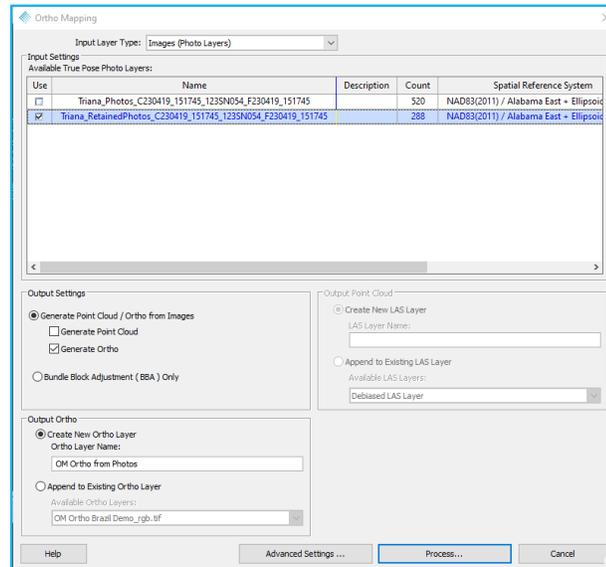

Figure 107 – Ortho Mapping dialog with Input Layer Type: Images (Photo Layers)
- After selecting the input layer type to be **Images** the Ortho Mapping dialog will change to look like Figure 107.